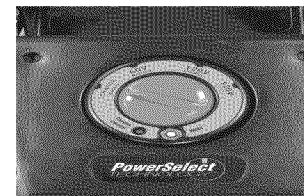

Figure 15- Power Selection Dial
1. Locate the upper deck power selection dial on the control board (see Figure 15).